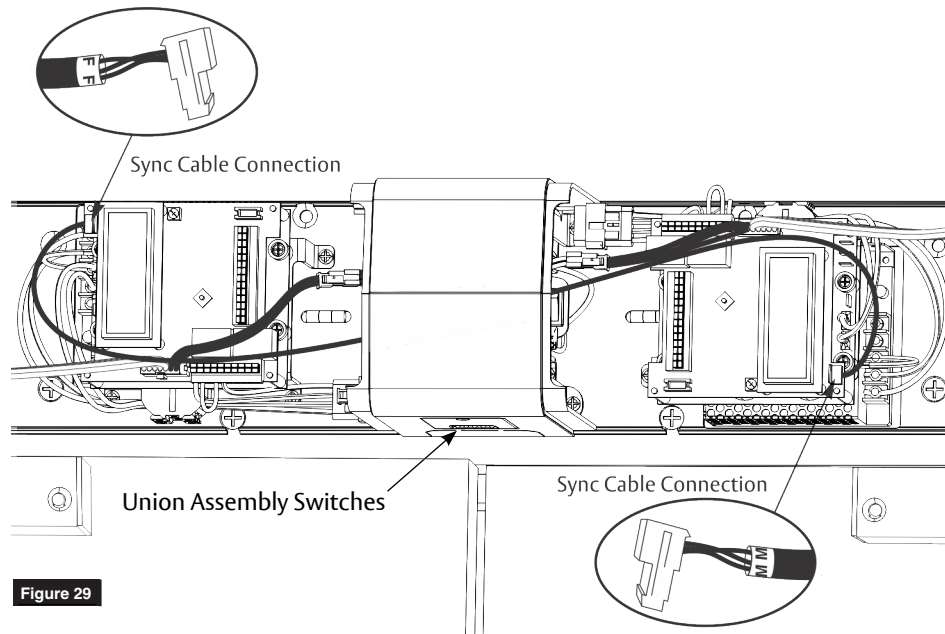

Figure 29
2. Run Sync Cable between operators. (Figure 29)
5. Place both selector mode switches of union assembly in ‘ON’ position for activation by push plate, RF button, or other activation devices. Place switches in ‘H/O’ for continuous hold open. (Figure 29)